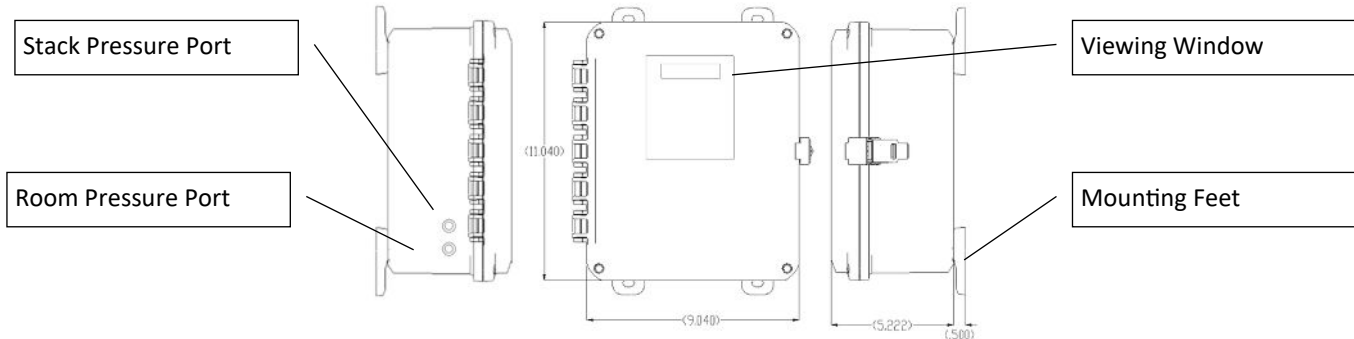

FIGURE 24
- When possible, a single “accessible” location is preferred for access to the Meridian control panel as well as the gas valve control box (XLVK (N/P) for the Isoflames XL Burner. With mounting feet installed the Meridian Control Panel measures approximately 9-1/2” (W) x 12” (T) as shown in (Figure 24). The gas valve control valve box measures approximately 12” (W) x 12” (T) x 4” (D). The gas valve control box installation will be covered in section “Gas Line & Valve Box Installation”.